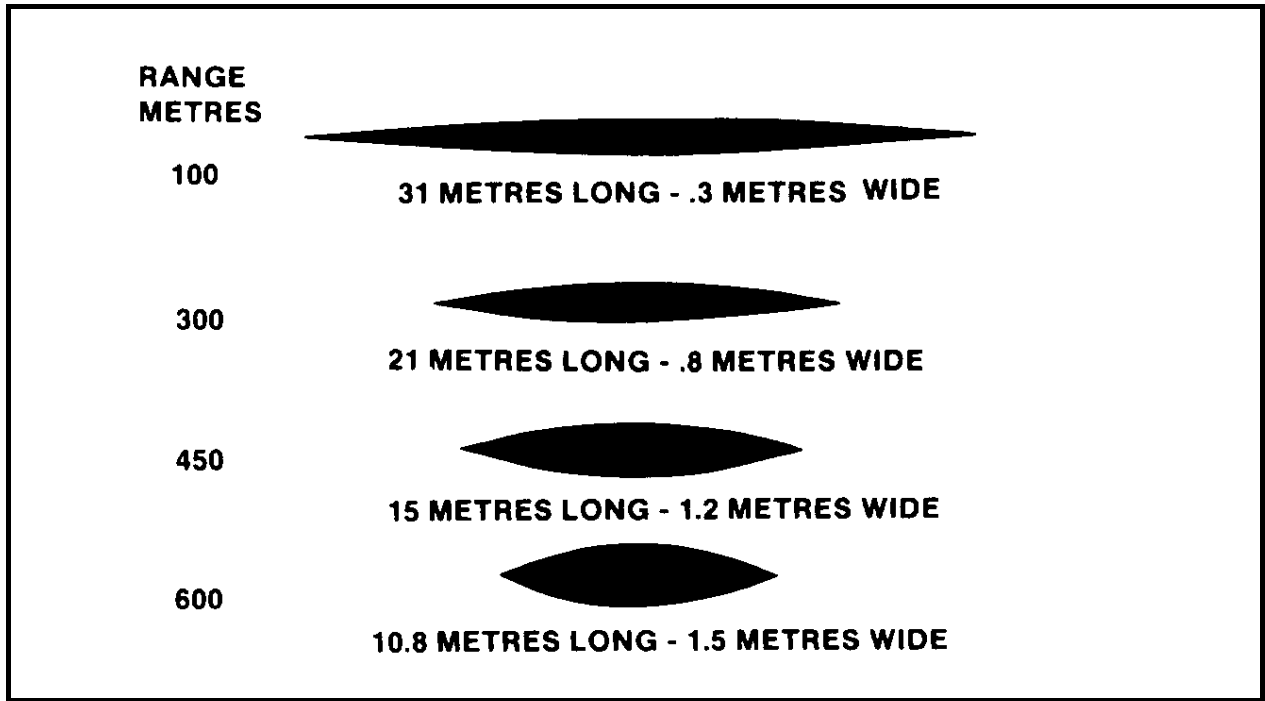
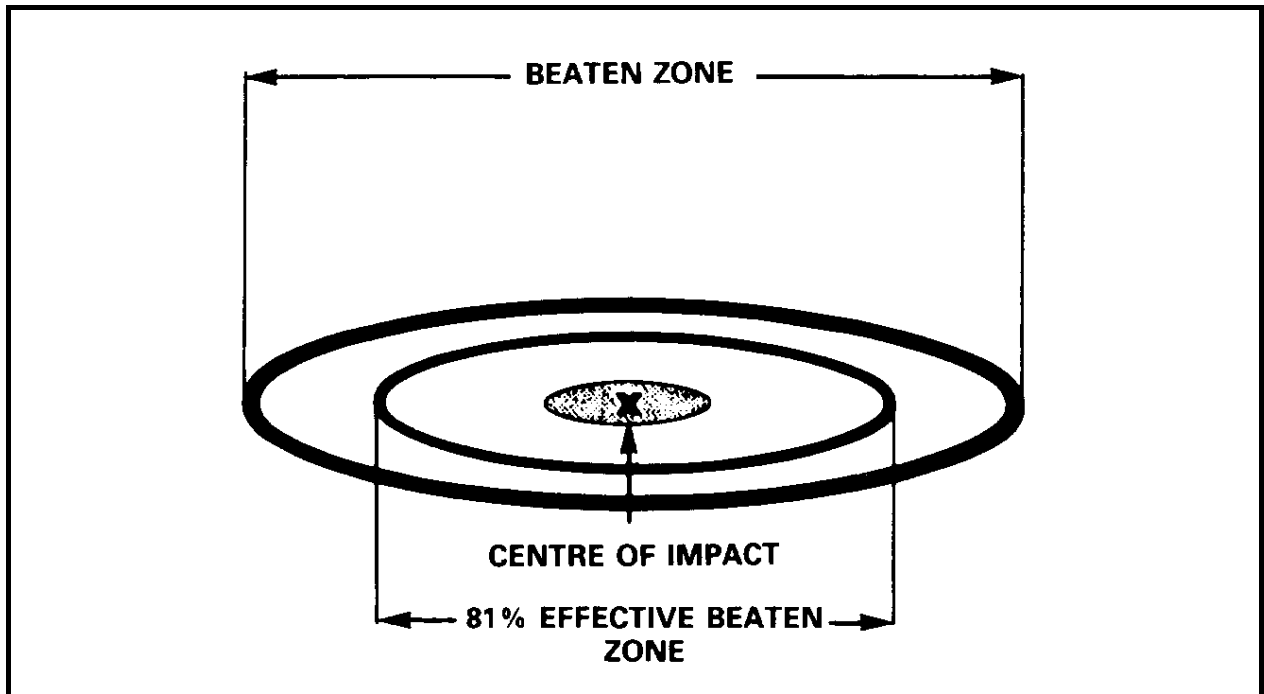

Figure 2-4 Beaten Zone
Figure 2-5 Distribution of Shots in the Beaten Zone
- d. **Beaten Zone.** The beaten zone is the area of ground covered by the cone of fire. It is oval in shape and its density decreases outwards. In Figure 2-4 the shape of the beaten zone of the LMG and its dimensions at several ranges is shown. Figure 2-5 shows the distribution of shots within the beaten zone.